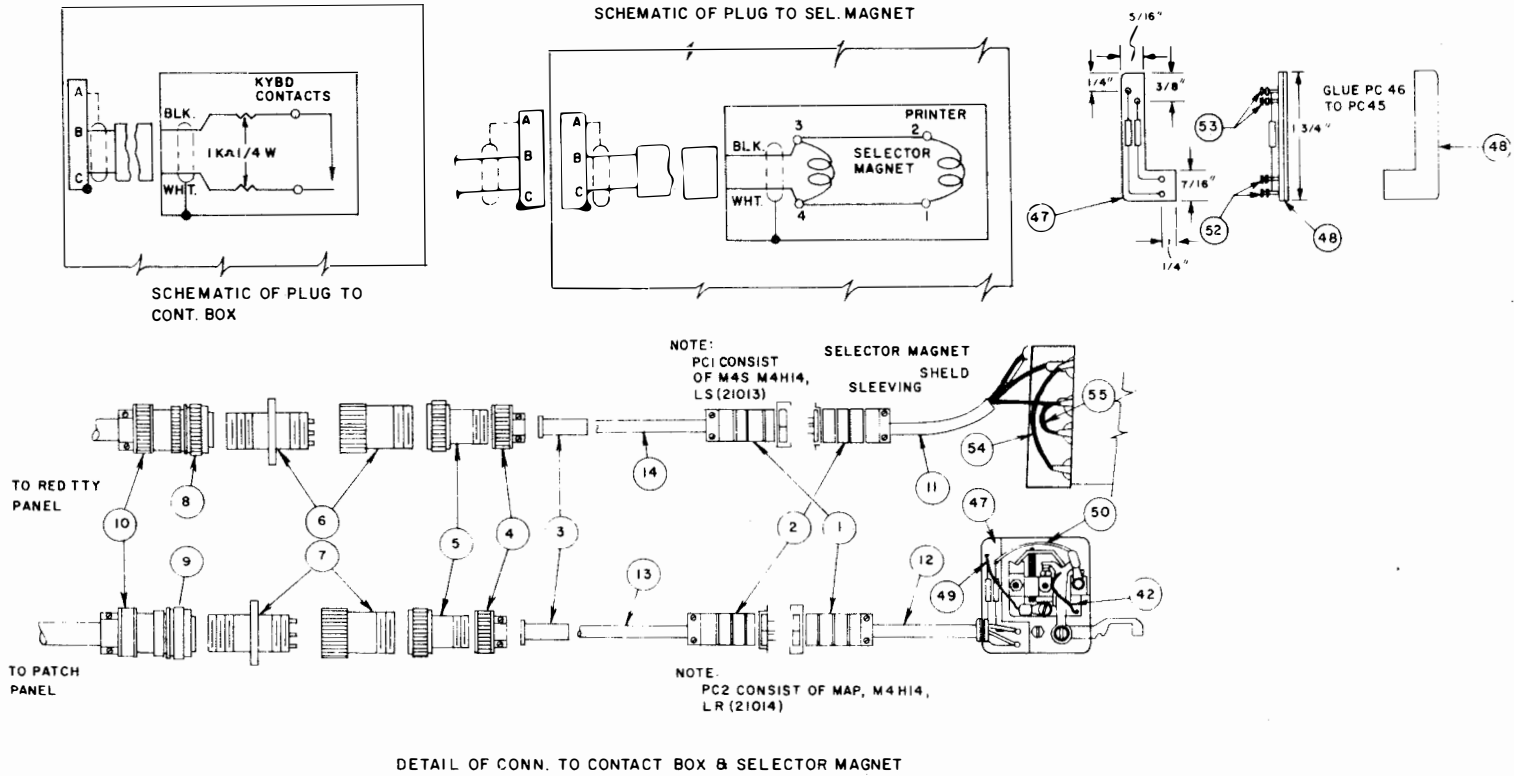

Figure 2.11 TT-176/UG Installation Drawing (Part 1)
1. Remove the tape holding the eccentric screw in position. Place the new contact box (item 19) and link in position, using the mounting screws retained from the old contact box, secure friction tight.
3. Route the contact box cable (item 12) down through the baseplate towards the rear. Bring the cable up through the baseplate and clamp the Winchester connector M4SLRH14 (item 1) on the base plate with the plastic clamp HP-9N (item 27). See installation drawing, Figure 2.11.